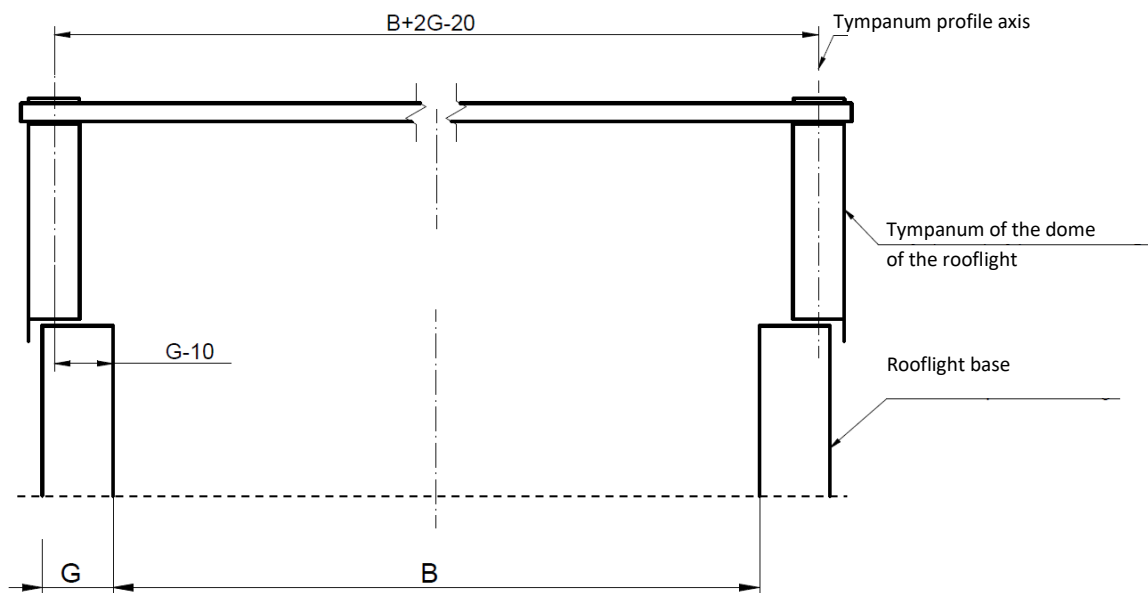

Figure 34 Arrangement of tympanum panels in relation to the rooflight base
- Now place the assembled tympanum panel vertically on the tympanum base. Apply a PES gasket to seal a gap between the tympanum panel and the waterproofing layer, if less than 10 mm wide. Fix the tympanum panels to the base using self-drilling screws $\varnothing 6.3 \times 32$ mm, fixed at 300–350 mm intervals, **so that the deflection of the steel profile after tightening the screws does not exceed 3 mm at the base centre**. Once the tympanum wall has been fixed to the base, the arch-shaped tympanum profile should be fixed to the longitudinal base piece and to the edge profile using self-drilling screws $\varnothing 6.3 \times 32$. The tympanums on the opposite sides of the rooflight should be arranged as shown in (Figure 34 Arrangement of tympanum panels in relation to the rooflight base).